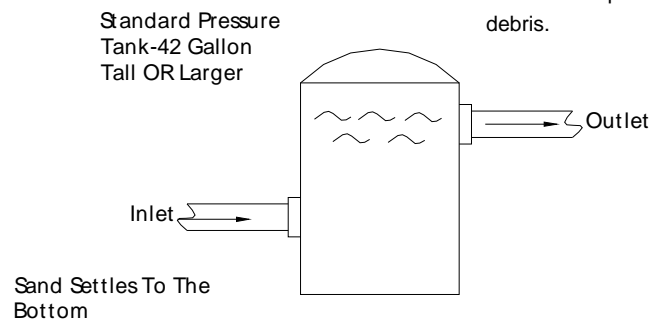

Figure 6
**NOTE:** For heavy amounts of sediment, install a trap filter on the inlet side the pump (See Figure 6).